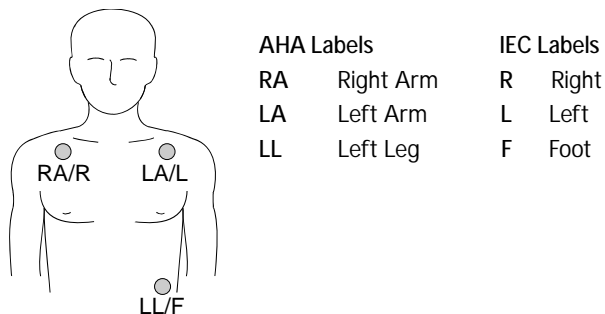

Figure 3-2 Connecting the ECG Electrodes for ECG monitoring
- 2 Apply ECG electrodes to the patient's chest as shown in Figure 3-2